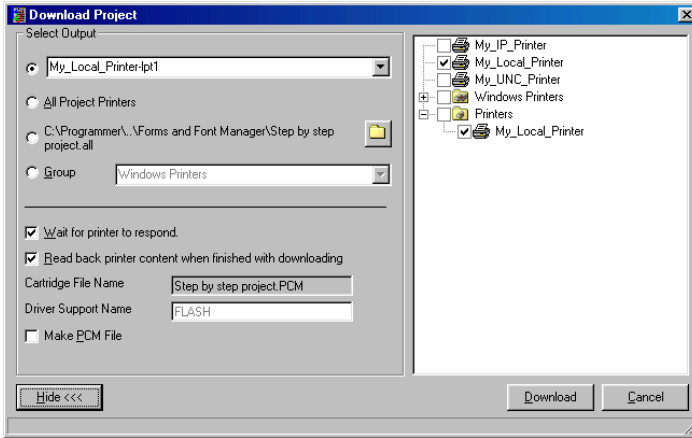

Figure 15
- Press the Icon  and figure 15 will appear or right click on the project and select “Download”